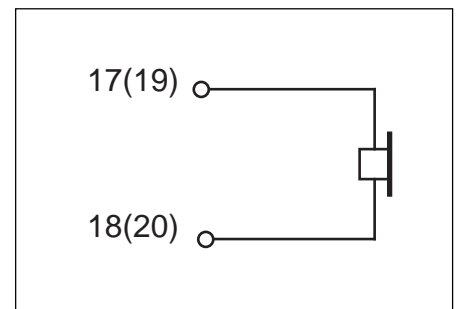

Figure 17. Dynamic receiver connection.
placed between pin 17 (19) and 18 (20). See figure 17.